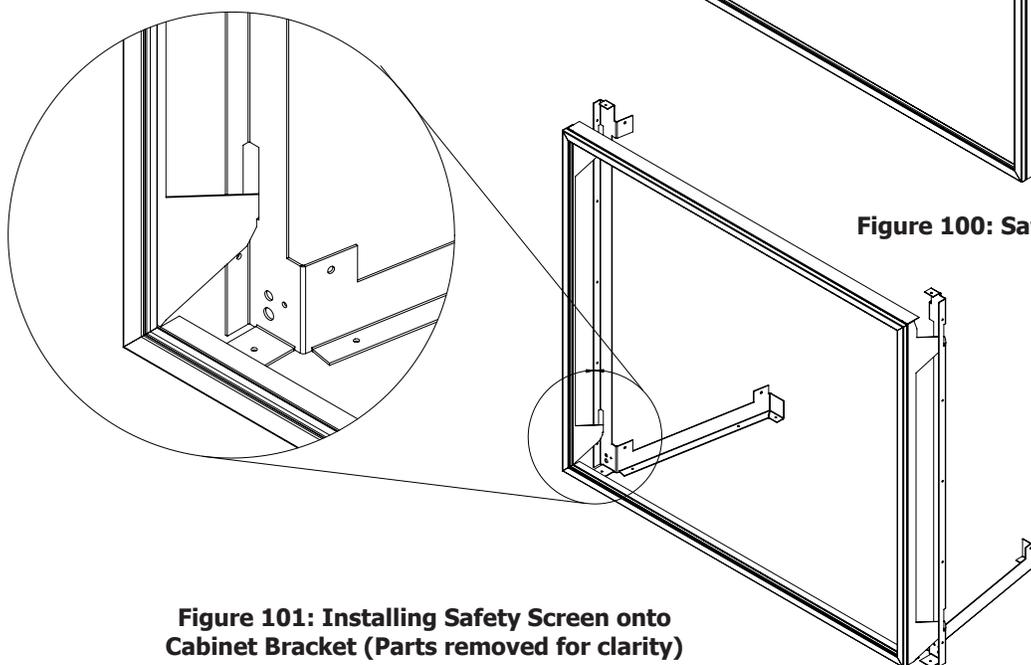

Figure 101: Installing Safety Screen onto Cabinet Bracket (Parts removed for clarity)
1. Lift the face upright in front of the fireplace with the four (4) hooks pointing towards the fireplace. Slide the hooks into the corresponding brackets on each side of the cabinet (see Figure 101). Ensure the hooks are secure before releasing the safety screen.